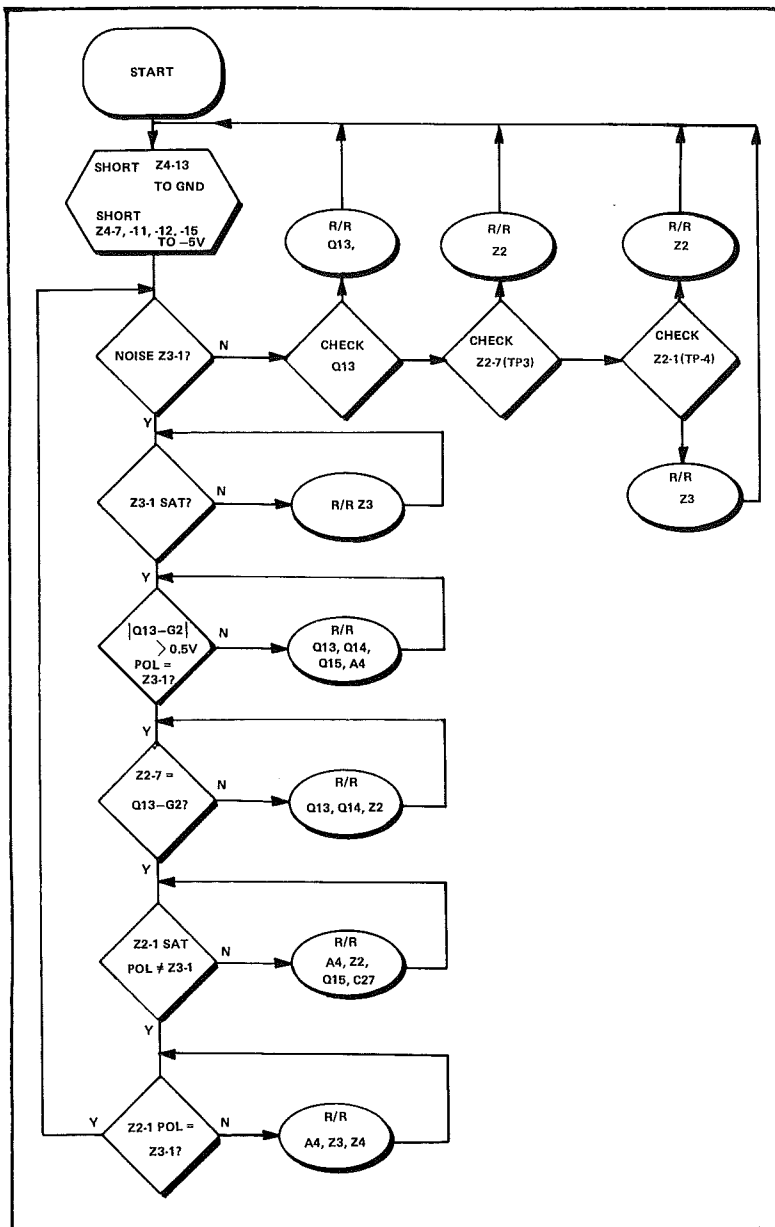

Fig. 4-8. Test TS4-4, Analog A/D Trouble Shooting
- d. Signal trace through A/D by following the steps shown in Figure 4-8. Remove shorting connections when finished.